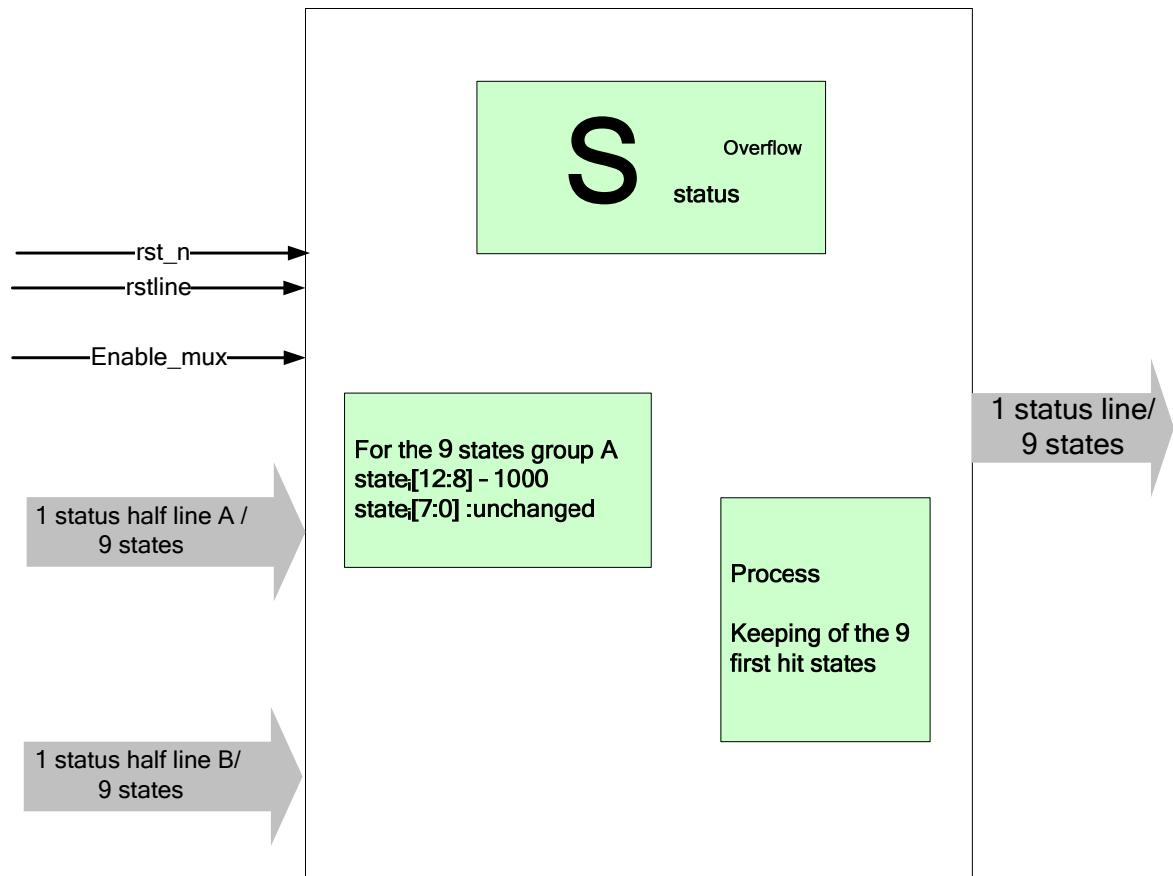

Figure 13: Module 6 x 9 ➔ 9 top view
- The writing process is realized by the writing of word of 2x16 bits. In order to reduce the useful memory space (see Figure 13), if the last word of 16 bits is not written (in case of even number of hit states in the current row), next row processing status is written in that location.